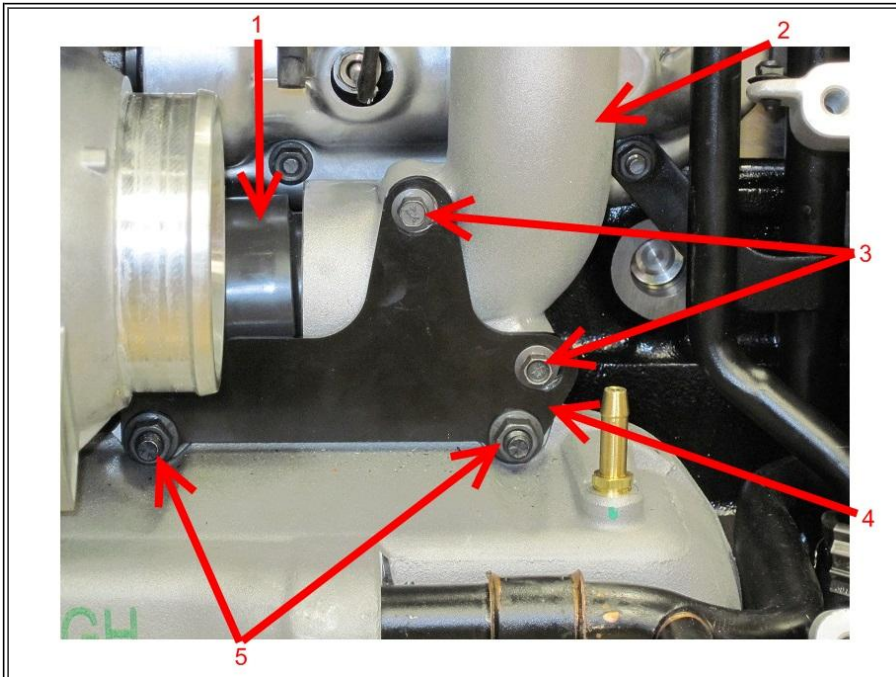

Figure 9: Oil Supply Tube at Oil Cooler Housing
9. Install interstage tube support bracket (**Figure 9**, Item 4) and secure with 2 bolts (**Figure 9**, Item 3) and 2 nuts (**Figure 9**, Item 5).